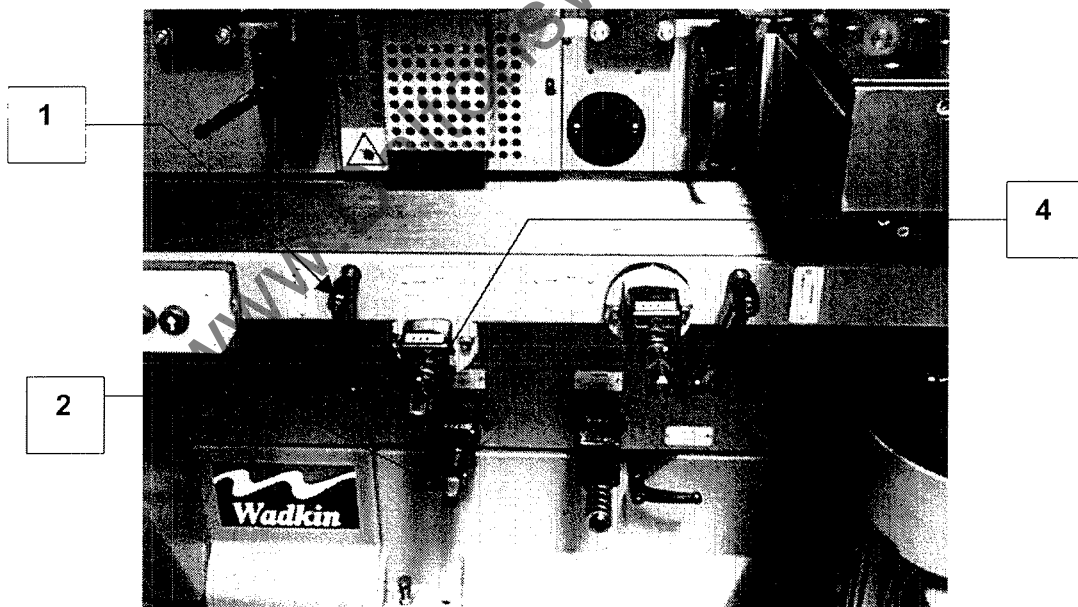

Figure 5.7
- 7 Slacken locknuts (5) and turn the adjusting screw (6) until the bottom face of the chipbreaker is touching the datum block.
- 8 Tighten locknuts (5).
5.7 Setting Second Bottom Head (Figure 5.7)